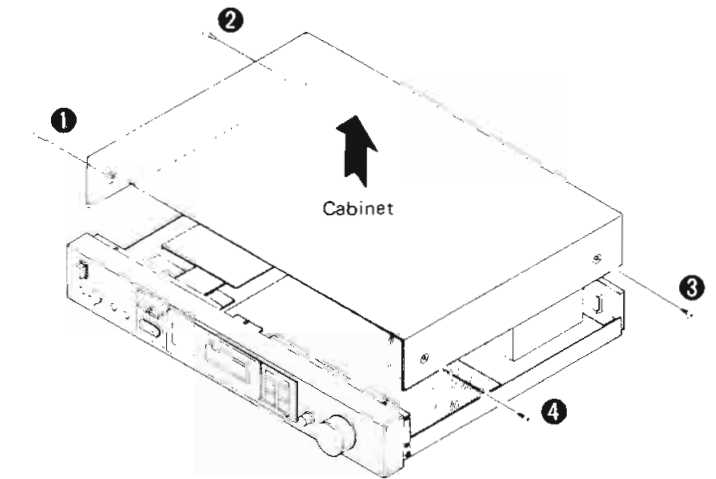

Fig. 1
- Remove the 4 setscrews (Fig. 1 : ① ~ ④) of the cabinet.